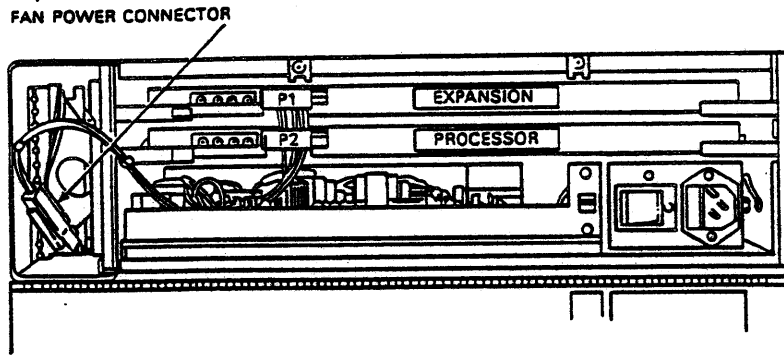

Figure 4-19 H3014 Distribution Panel with Rear Cover Open
5. Disconnect the power connector that is connected to the fan assembly (Refer to Figure 4-19).